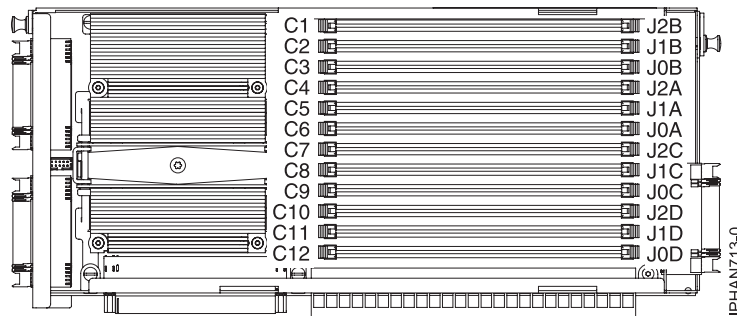

Figure 2. Memory module slot locations in the processor assembly for processor features 5620, 5622, 7380, 7387, 7388, and 7540
- Each processor assembly has 12 memory module slots. See Figure 2 for the memory module slot locations in the processor assembly. The memory modules must be plugged into the slots in the following order: